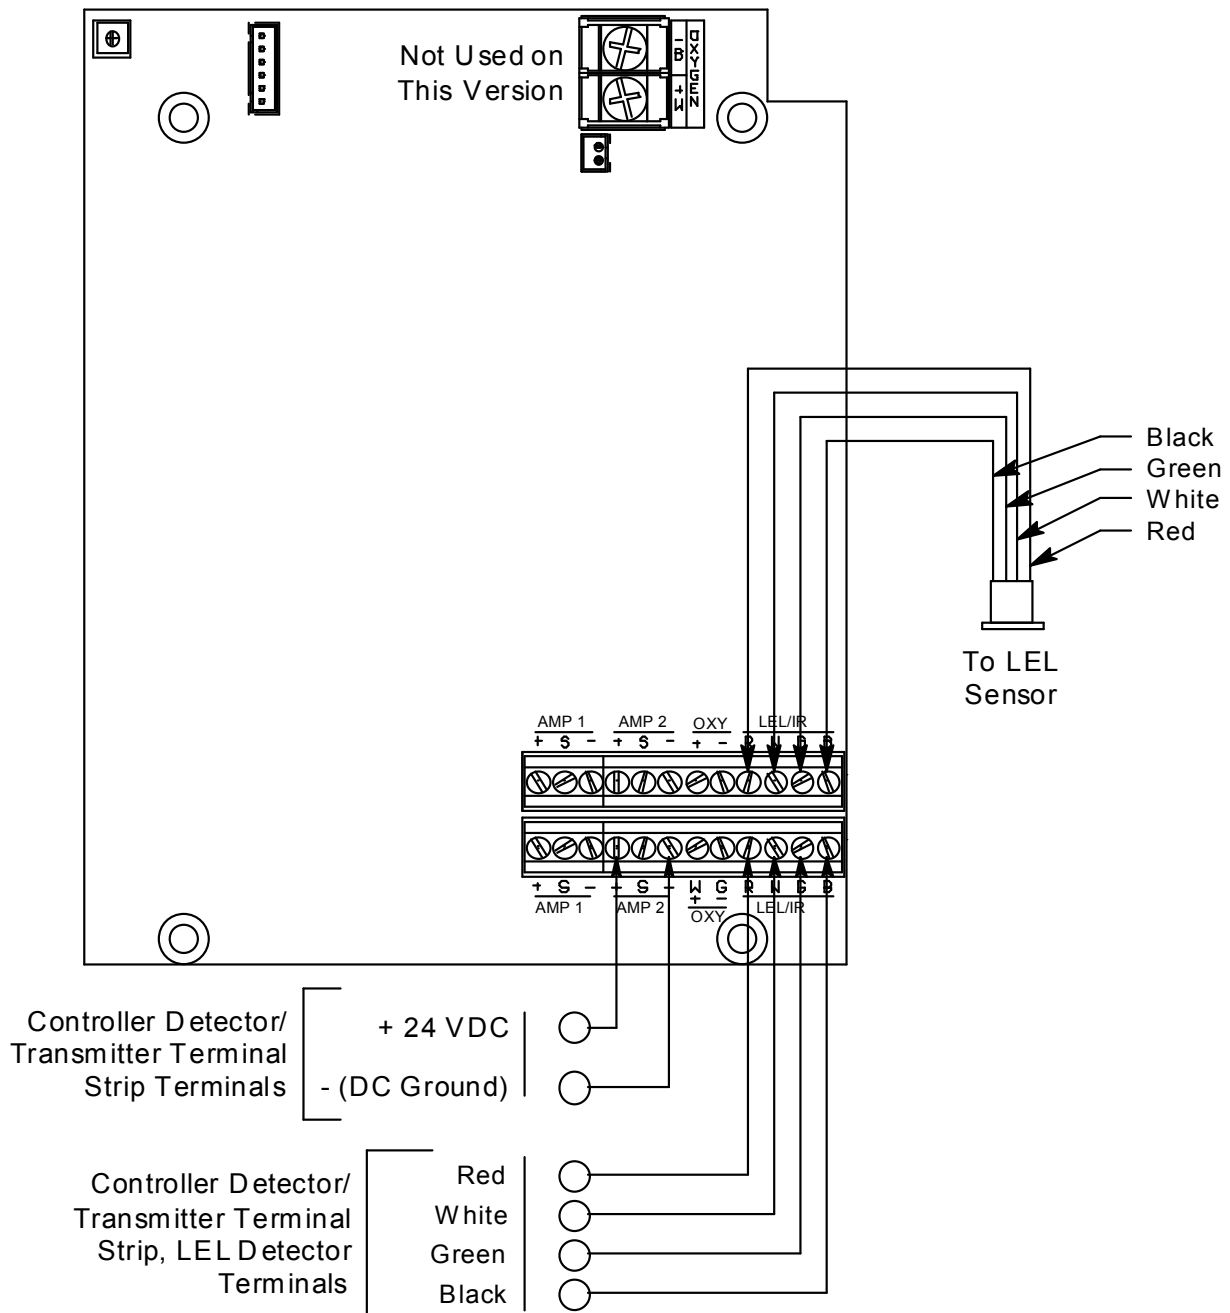

Figure 4: Wiring the Sample-Draw Detector to a Controller
5. Connect the cable to the sample-draw detector’s interconnect terminal strip as shown in Figure 4.
8. Connect the wires to the applicable detector/transmitter terminal strip at the controller as shown in Figure 4. Refer to the controller operator's manual and the controller detector head specification sheet for the 35-3001-01 for detector/terminal strip connections specific to the controller.